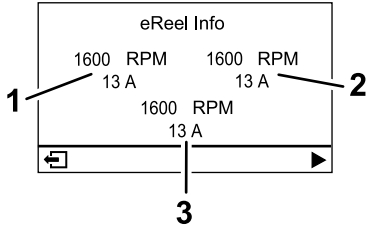

Figure 21
- **eReel motor screen (Figure 21):** shows the speed and current of each cutting-unit motor.